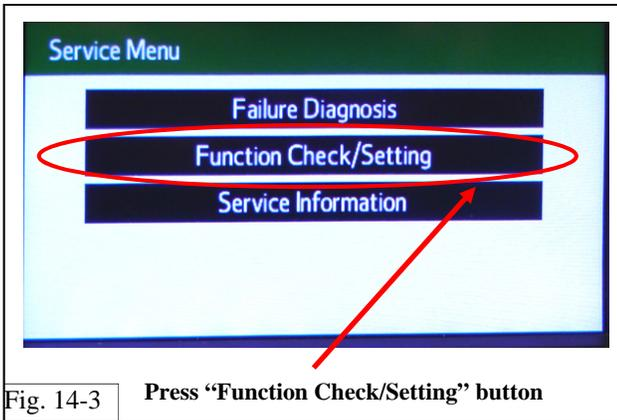

Fig. 14-3 Press "Function Check/Setting" button
- (a) Press the "Function Check/Setting" button (Fig. 14-3).